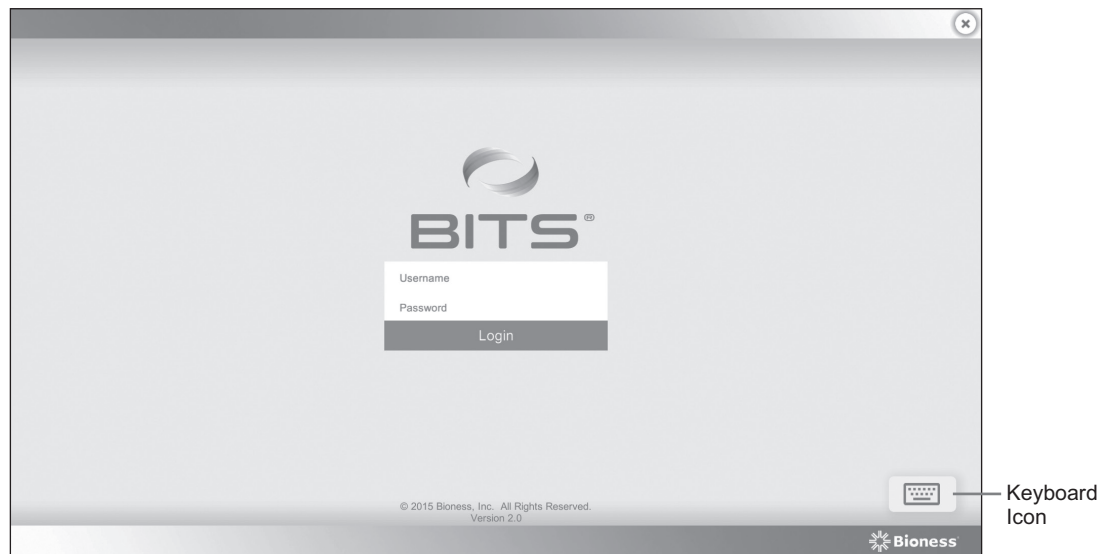

Figure 27: BITS Login Screen
2. The BITS Login Screen will open. To open the on-screen keyboard, press the Keyboard Icon located at the bottom right of the screen. See Figure 27.